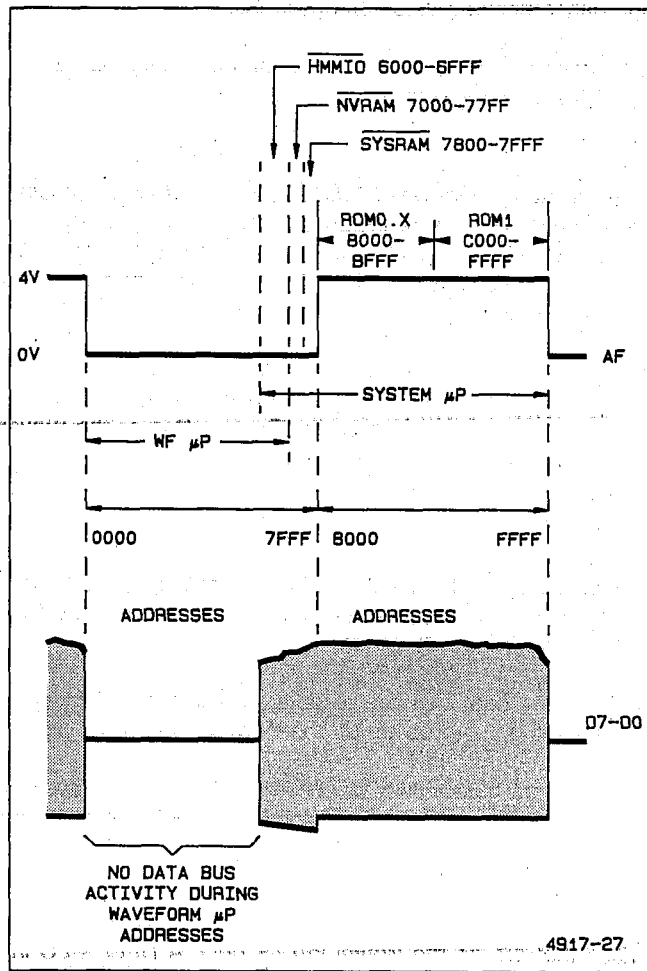

Figure 6-10. System μP data bit D7 in the Bus Isolate mode.
3. Check that no data bus activity is occurring during the Waveform μ P address space (see Figure 6-10 to compare against). Faulty address decoding can cause response from an incorrectly addressed device.